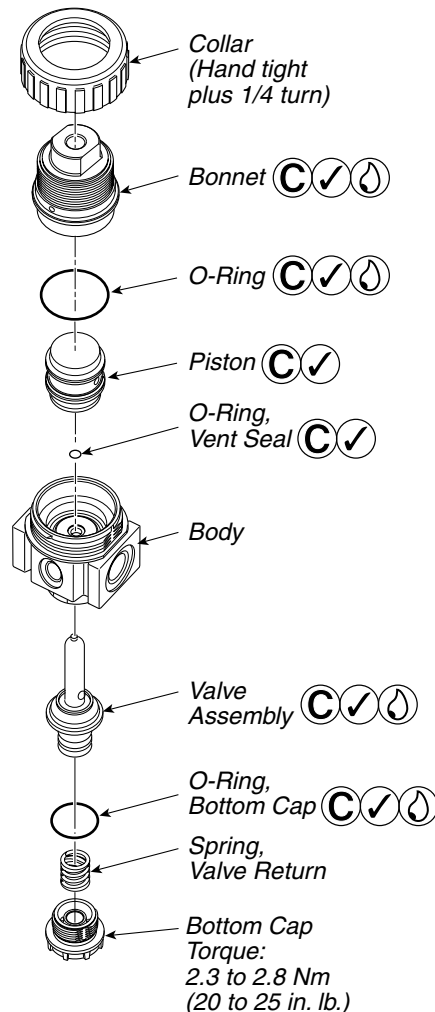

Figure 1
4. Assemble bonnet assembly to body and tighten threaded collar per Figure 1.
4. Install parts as shown in Figure 1.
5. Lubricate cap o-ring and install it in o-ring groove on cap. Then screw cap into body until the cap bottoms out in body (See Figure 1).